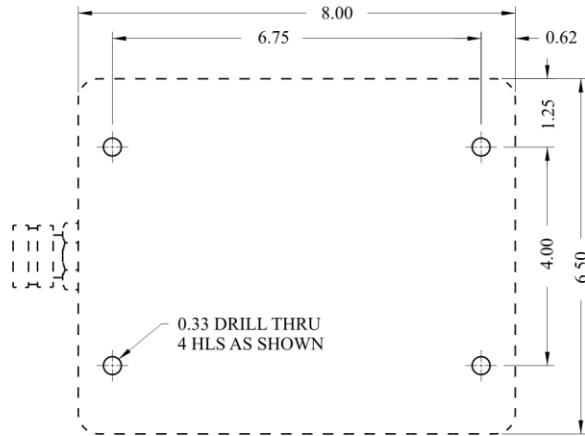

Figure 17
- Mark locations of mounting holes on mounting surface or bracket per Figure 17
- Drill four (4) 21/64" diameter mounting holes.
- Open hinged cover of battery enclosure by loosening the four screws. Insert one 5/16-18 UNC socket head cap screw from the inside of the enclosure through each of the four (4) mounting holes of the enclosure and into the corresponding holes in the